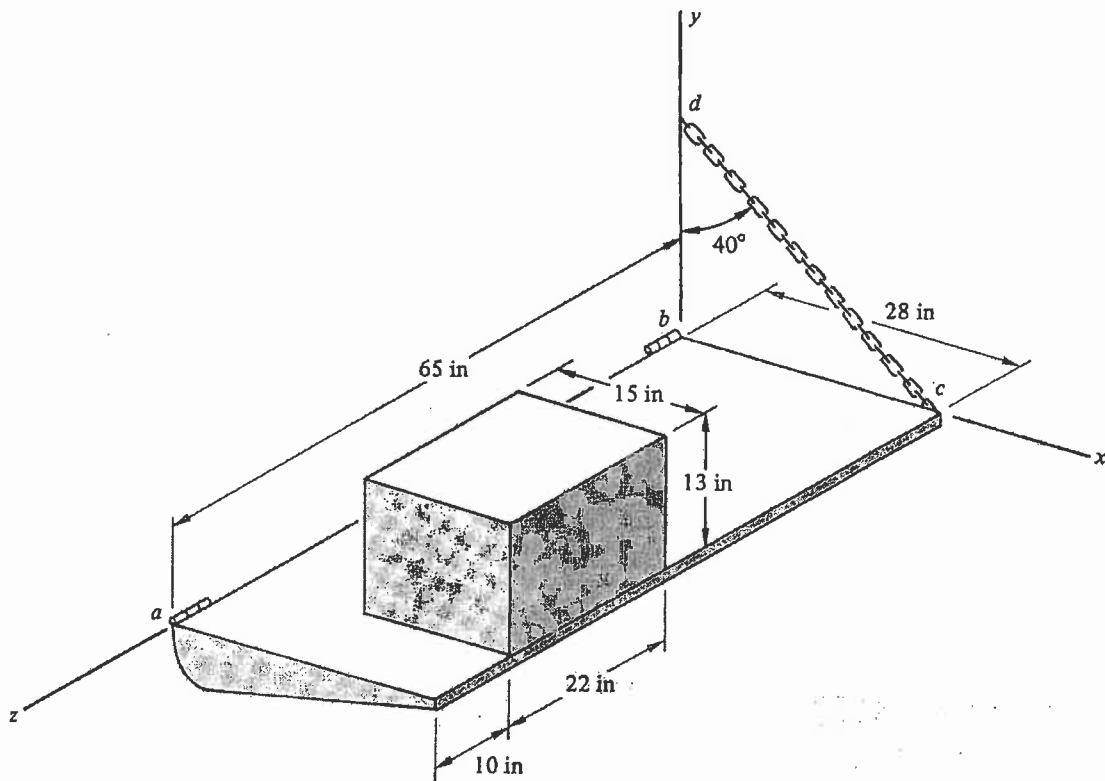

FIGURE 2.
- II. A truck tailgate is shown in figure 2. A homogeneous crate of density $120 \text{ lb}_f/\text{ft}^3$ rests on the 85 lb_f tailgate. The centre of mass of the tailgate is located 7.5 inches from the z -axis in the positive x direction and 32.5 inches from the x -axis in the positive z direction. Assuming the hinges at a and b do not exert any force in the z direction, determine using *cartesian vector methods*: